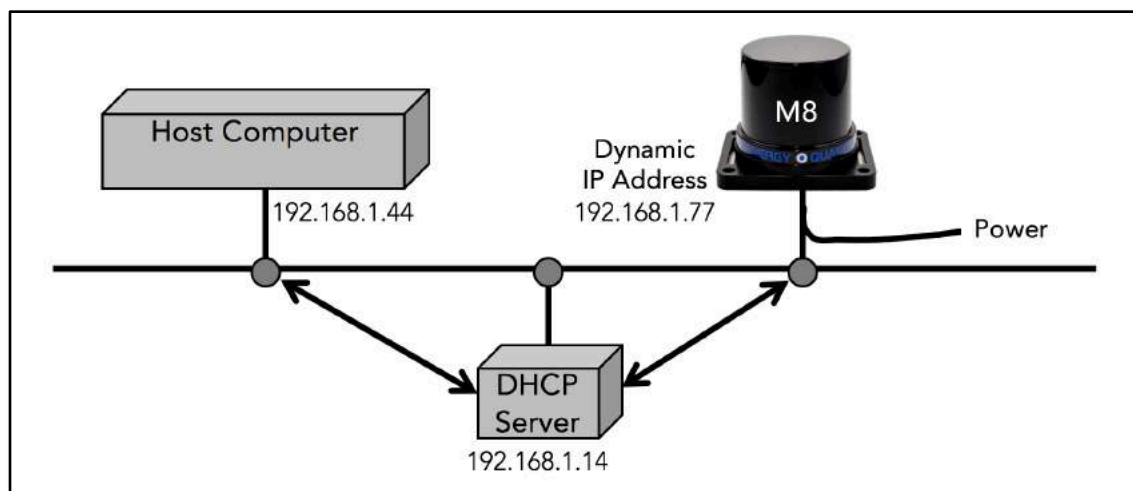

Figure 19. Sensor Connections with Dynamic IP Address
- **For dynamic:** Connect to a router that is on the same network as the host computer (Figure 19). The DHCP server will automatically assign the sensor a dynamic IP address to match the computer's network address.